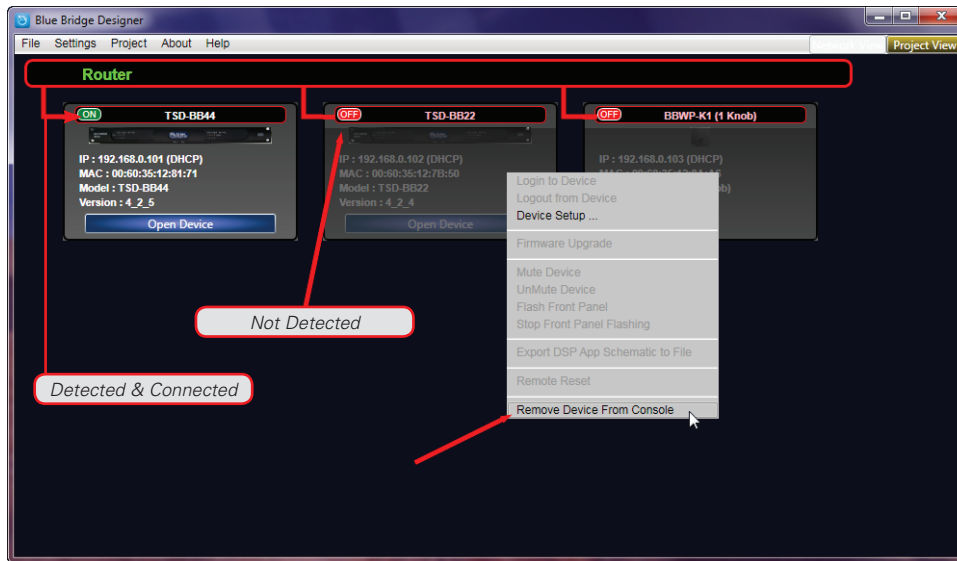

Figure 9
- **Note:** If you have used this software with any Atlas BlueBridge hardware devices that were previously connected, you may still see them appear in the Network view as shown in Figure 9. These can be identified by the model number. The RED dot in the upper left corner of the device window indicates the device is no longer detected.
- You can remove the unused hardware device by right clicking on the device you want to remove and select "Remove Device From Console" as shown in Figure 9.